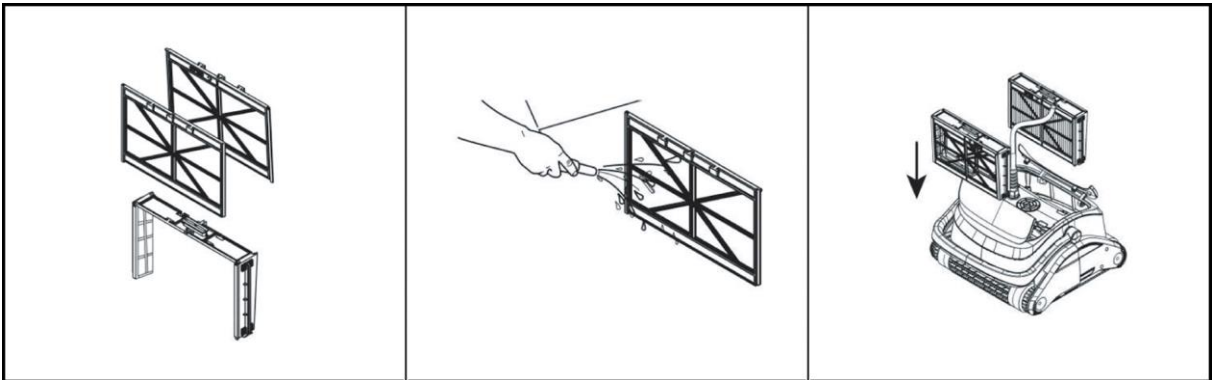

Fig. 6
- Also clean the filter baskets regularly by pushing the side grilles upwards and thoroughly cleaning and rinsing them (Fig. 6).